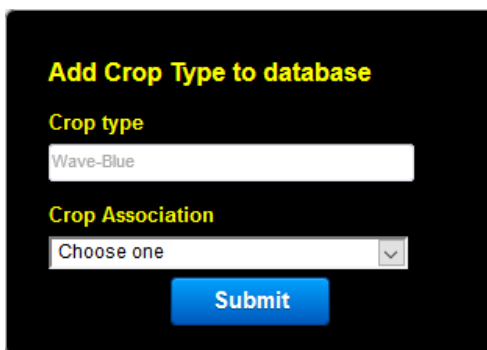

Fig. 14
2. **Crop Type** A Crop type is dependent on the Crop entered. Enter the name of the Crop Type then select the Crop in the dropdown that it is associated with. (See fig.14)